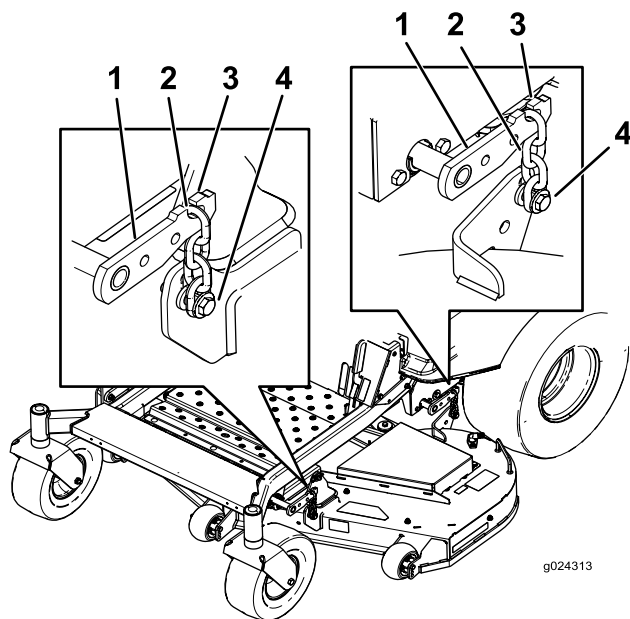

Figure 74
8. Remove the chains from the hooks on the deck-lift arms (Figure 74).
6. Lift the rear of the mower deck and attach the chains to the rear lift arms (Figure 74).
7. Attach the front chains to the front lift arms (Figure 74).